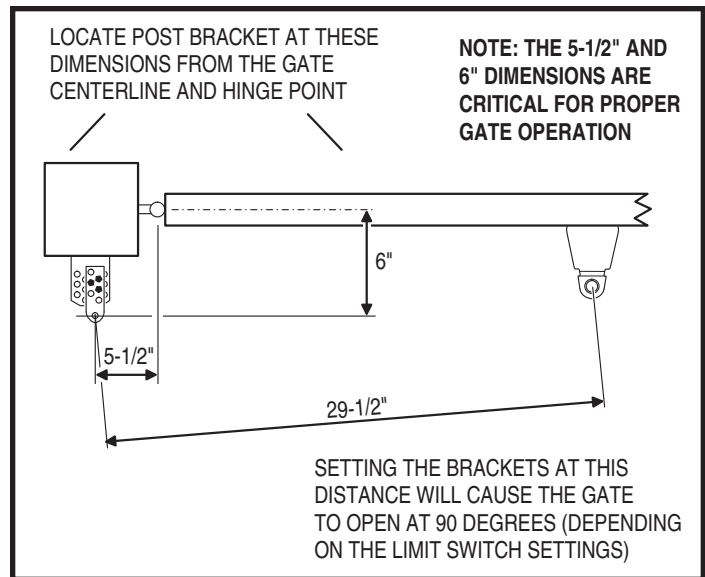

Figure 2. Required Bracket Locations
Examine Figure 2 for details on the required mounting locations for the brackets. They must be mounted at the correct locations to allow the operator to open the gate at a 90 degree angle and to ensure the operator functions smoothly.
2. Using Figure 2 as a guide, mark the locations on the post or pillar and the gate for the mounting brackets. The top surface of the post bracket must be $3/8$ " below the top surface of the gate bracket to allow for the bolt-on operator bracket's $3/8$ " thickness.